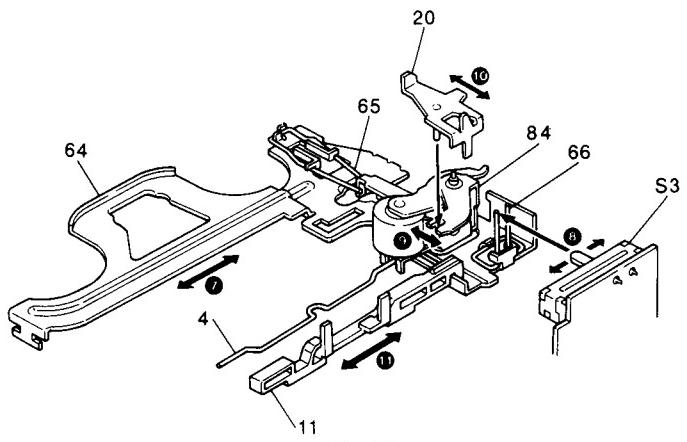

Fig. 8
4. The main plate (64) slides in direction of arrow (⑦) in Fig.8 causing the following part movements;
- a) Head switch (10) movement is changed per arrow (⑧).
- b) Force transferred from pinch roller spring (4) changes the relation of pinch roller and capstan to each other, per arrow (⑨).
- c) Seesaw plate (20) is moved by the main plate and seesaw plate spring (65), and moves seesaw working plate (84). All FF/REW operation is performed by this seesaw plate movement. See arrow (⑩).